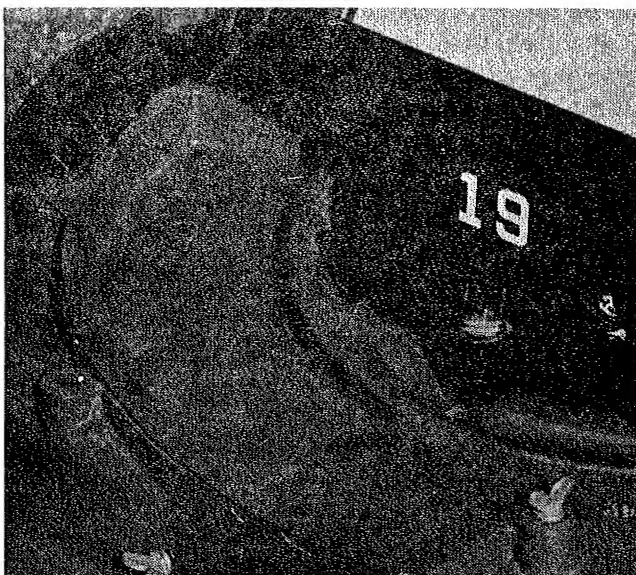

FIGURE 11
**DISPERSAL:** If the clippings are to remain on the lawn, mow with the discharge chute toward the area already cut. If the clippings will be raked up later and the grass is at a normal height of 3 inches or less, it is practical to disperse the clippings into the un-cut area. There they will be concentrated in the center of the lawn for minimum raking. Only the top mower cover is required. (See Figure 11).